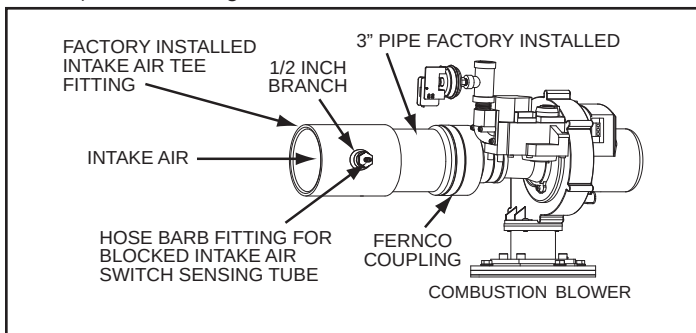

Figure 19. Intake Air Connection
15. If installing two- or four-inch intake air pipe, transition to three-inch pipe at the intake air connection on the water heater as shown in *Figure 19*. The field installed three-inch pipe between the intake air connection and the reducer coupling should be 18 inches (45 cm) or less in length.